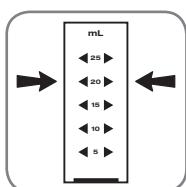

Figure 2
2. Fill the sample cup up to the 20 mL mark with deionized water. **See Fig 2.**
2. Fill the sample cup up to the 20 mL mark with the sample. **See Fig 2.**